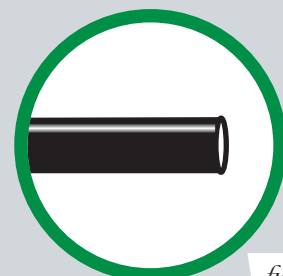

fig. 8
When cutting air lines, use a sharp knife or a hose cutter and make clean, square cuts (Fig. 8). Do not use scissors or wire cutters because these tools may deform the air line, causing it to leak around fittings. Do not cut the lines at an angle.
- a. Check the air line connection by deflating the spring and removing the line by pulling the collar against the fitting and pulling firmly on the air line. Trim 1" off the end of the air line. Be sure the cut is clean and square (see Fig. 8). Reinsert the air line into the push-to-connect fitting.